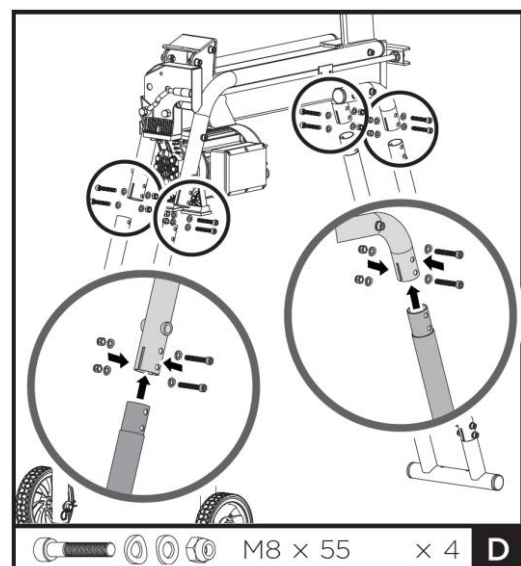

Fig. 4d
5. Insert the upper ends of the front and rear connecting tubes (j & k) into the openings of the pre-assembled support frames on the main unit. Make sure the mounting holes are aligned. Secure the connection using bolts M8x55, washers, and nuts (D) (four bolts, washers, and nuts were removed in Step 1). Refer to Fig. 4d.